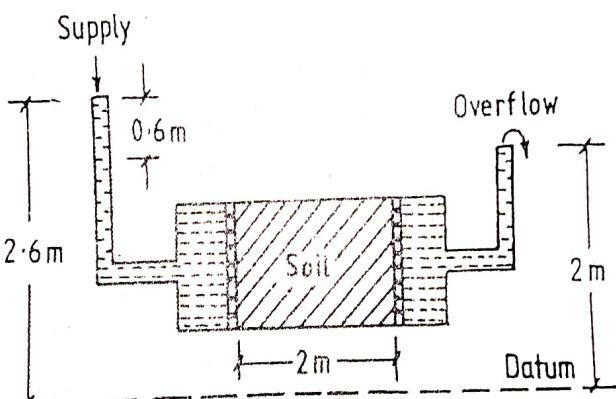

Figure 1
- a. In the experimental set-up shown in Figure 1, if the area of cross section of the soil sample be  $0.28 \text{ m}^2$ , and the quantity of water flowing through it be  $0.03 \text{ cm}^3/\text{sec}$ , determine the coefficient of permeability in m/day.